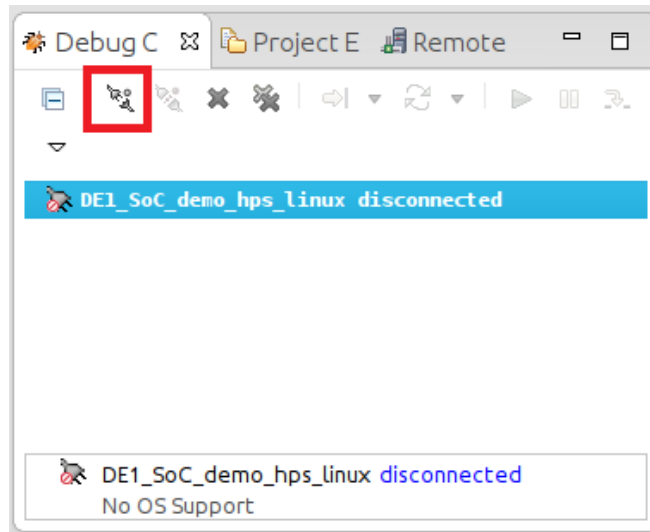

Figure 13-29. Debug Control View
91. In the “Debug Control” view, click on the “DE1\_SoC\_demo\_hps\_linux” entry, then click on the “Connect to Target” button, as shown on Figure 13-29. The debugger will start an SSH connection to the linux distribution running on the DE1-SoC and will automatically transfer our binary file and wait at our application’s “main()” function. If you are prompted to log in, then log in with the **ROOT** user and password.